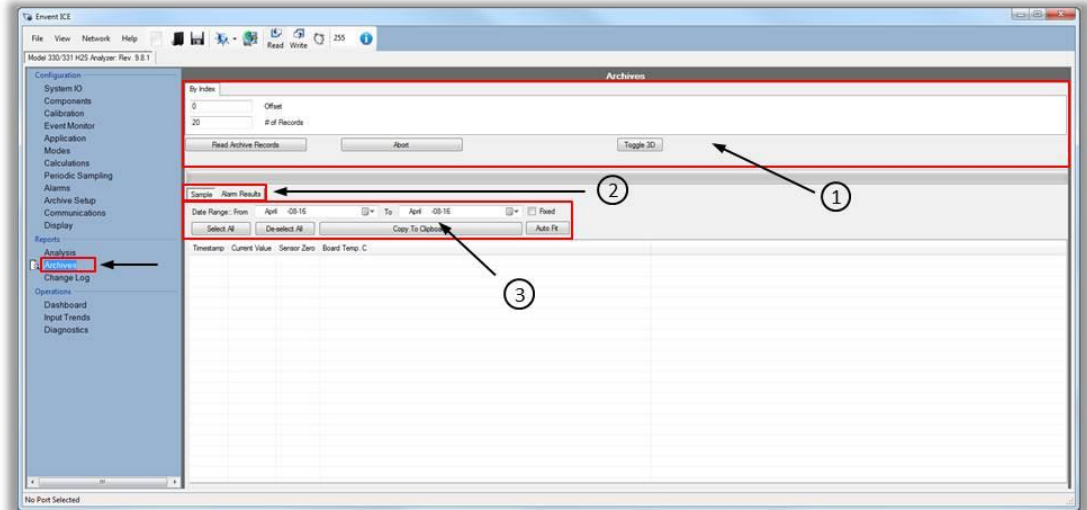

Figure 10. ICE Software: Reports: Archives Tab
Go to the "Archive" tab under the report section in the left hand menu. Refer to Figure 10.
Retrieve the records from the analyzer by clicking on this button. The amount of records retrieved will depend on the offset and # of records. Refer to Figure 10 area ①
The number of records retrieved from the analyzer. By default the analyzer always retrieves from newest to oldest records. Figure 10 area ①.
The records are always retrieved from newest to oldest. Use the offset to see the oldest records and skip the newest ones. E.g. the analyzer has recorded 1000 records, and only the first 100 records (Oldest) need to be retrieved, type in 900 in the offset box and this will skip the latest 900 records. Refer to Figure 10 area ①.
On Figure 10 area ② shows "Sample" and "Alarm Result" buttons. "Sample" was the name giving to group 1 on the Configuration>Archives Tab.
The "Alarm Result" group is a fixed section that shows all the alarms state changes, bypass action, discrete input state change, etc. Refer to Figure 10 area ②. The analyzer stores up to 1024 records from this fixed archive group. Recognize that these records are only saved when there is a state change. It is not based on a time frame or analysis time.
The Date Range is the option of retrieving data from specific calendar days. By default, the analyzer will always retrieve data from the current date. To always retrieve records from a specific Date Range, check the "Fixed" box to retrieve records from a specific time. Refer to Figure 10 area ③.
The auto fit option is used to increase the column's width for when the variable's name being recorded is too long. Refer to Figure 10 area ③.